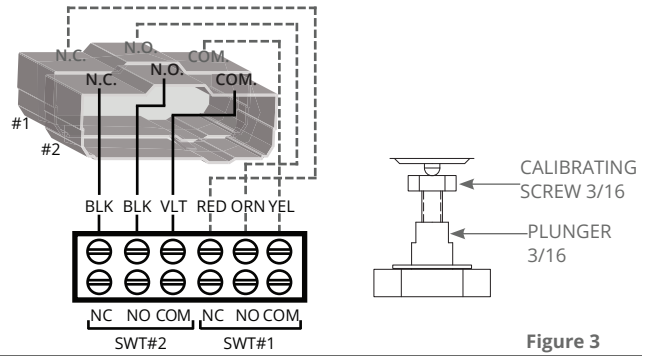

Figure 3
- 2 Adjust set point by holding plunger with 3/16" open end wrench and turning the calibrating screw with another 3/16" open end wrench (see figure 3).